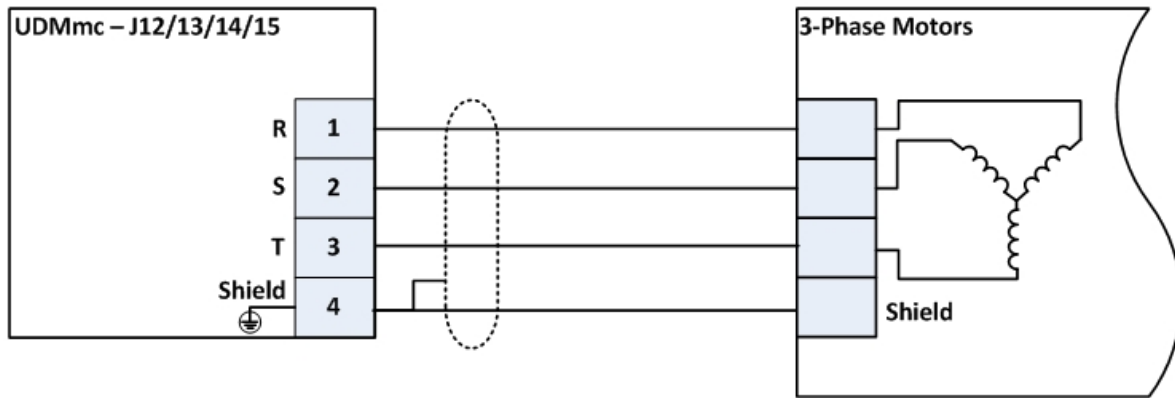

Figure 4-13. 3-Phase Motors (AC synchronous, Step Motor) Connections
- > 3-phase (AC Synchronous / DC Brushless step motor), see Figure 4-13.